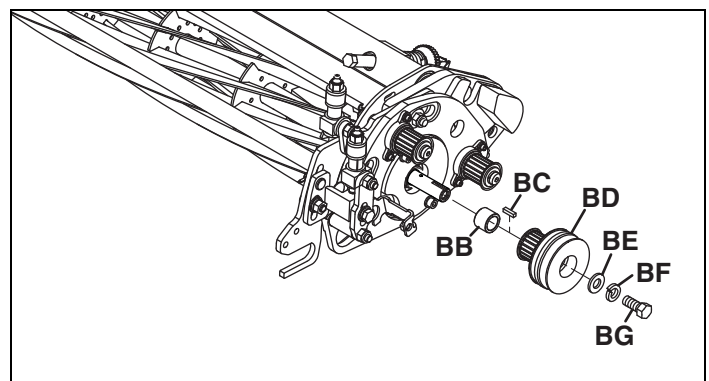

Figure 7
17. Slide 7/8 x 21/32" spacer (BB) onto reel shaft. **See Figure 7.**
18. Insert 1/8" square x 7/16" key (BC) into slot on reel shaft. **See Figure 7.**
19. Slide drive pulley (BD) onto reel shaft. Secure pulley with 3/8-24 x 1-1/4" hex head screw (BG), lockwasher (BF) and flat washer (BE). Block reel with a piece of wood and securely tighten screw. **See Figure 7.**